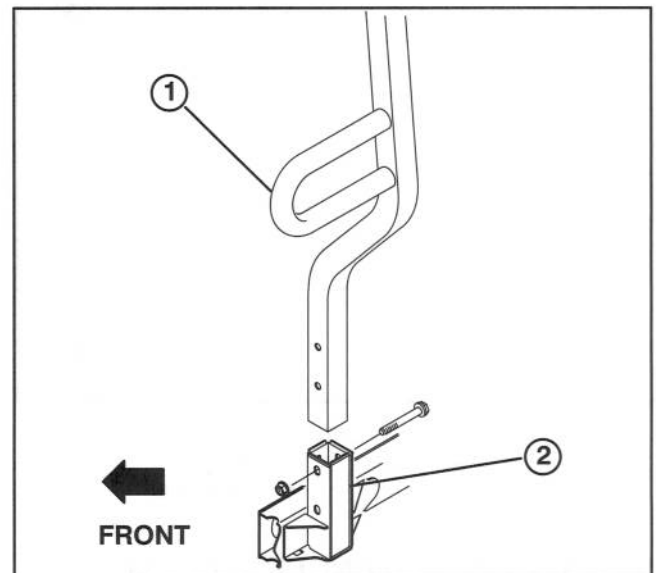

Figure 8
INSTALL ROPS (Fig. 8)
1. Insert each side of ROPS into mounting bracket on each side of vehicle frame, positioning ROPS as shown in figure 8.
2. Secure each side of ROPS to mounting brackets with (2) 1/2–13 x 3" lg. capscrews and locknuts.